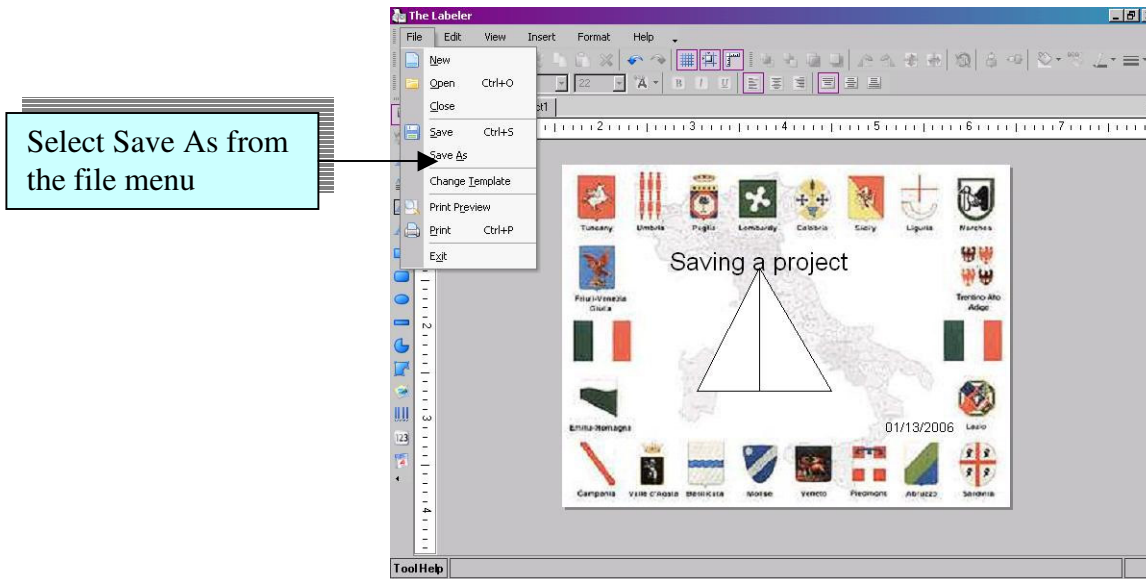

Figure 5.1.2: Selecting Save As
1.1 Click Save As which is located in the file menu (see Figure 5.1.2).